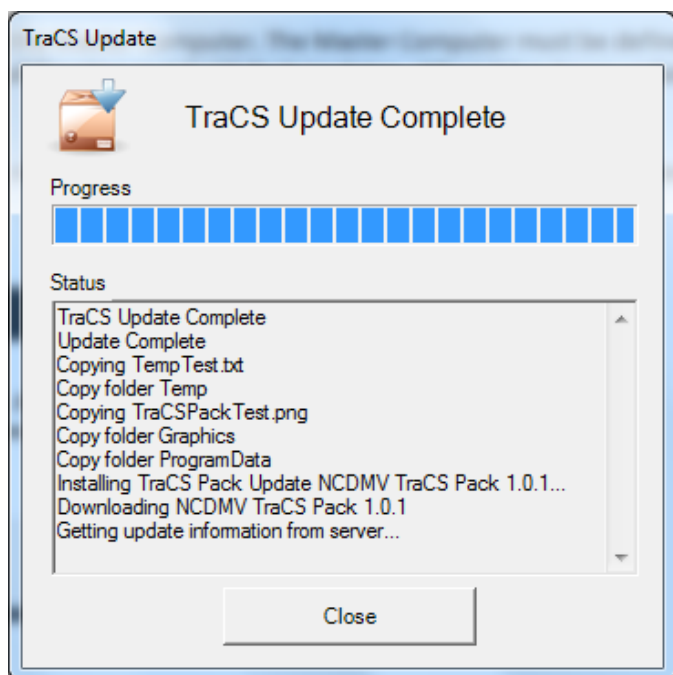

Figure 131. TraCS Update Window
3. Click **Yes**. The **TraCS Update** window opens, as shown in Figure 131.